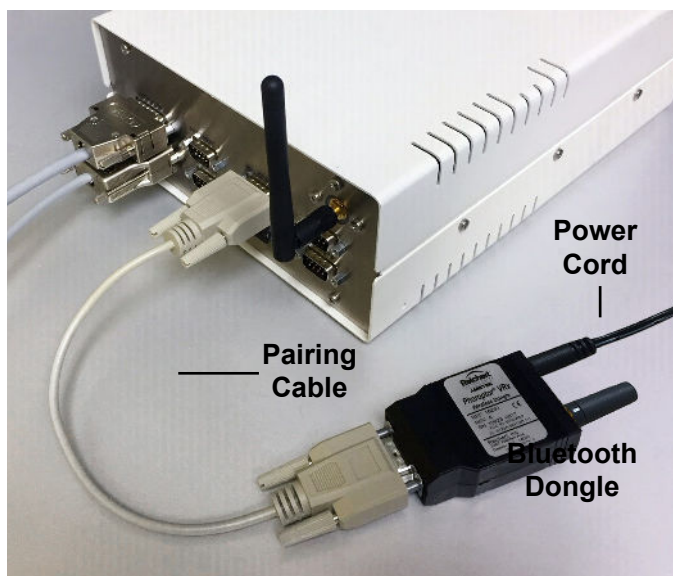

Figure IS-13, Bluetooth Dongle to Central Unit
9. Connect the Bluetooth dongle to the corresponding Central Unit port with the provided pairing cable. Refer to Figure IS-13.